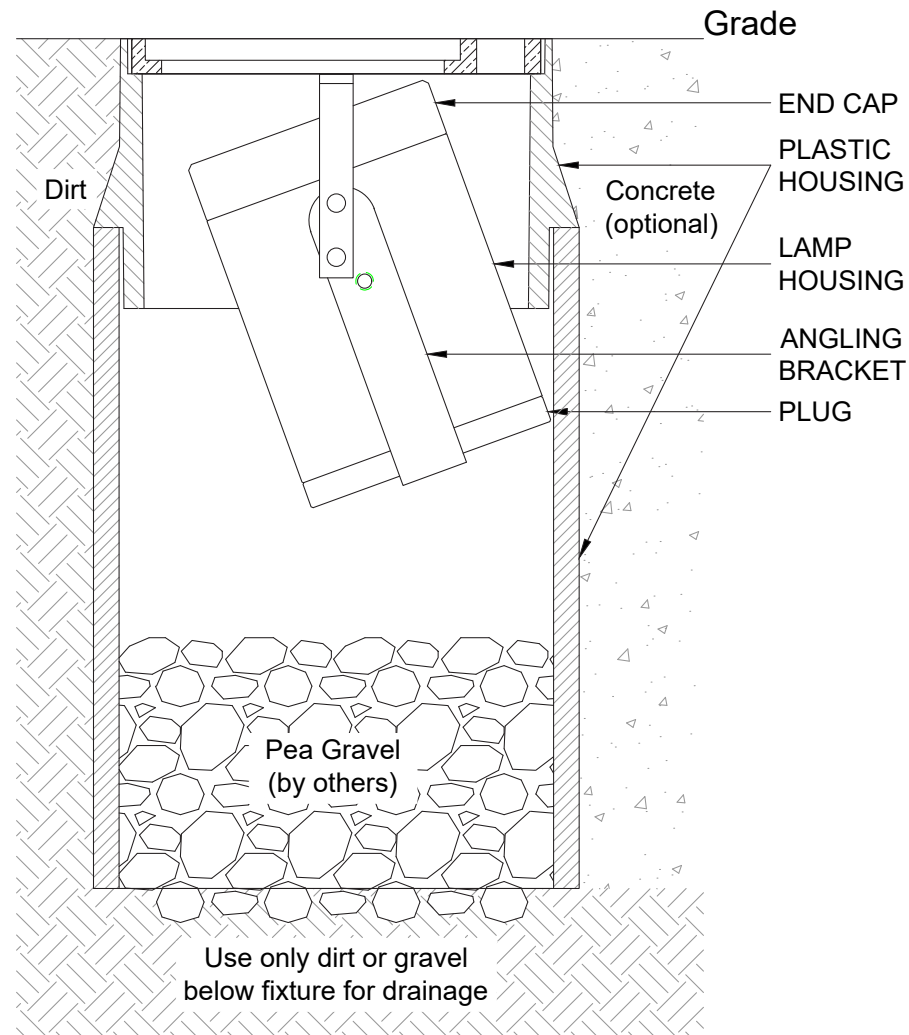

Figure 1
4. Place plastic housing into hole with top of the housing flush at grade (Figure 1).
5. Using a 3/32" hex wrench, loosen set screws on either side of the Angling Bracket. Adjust to desired angle and retighten screws (Figure 1).